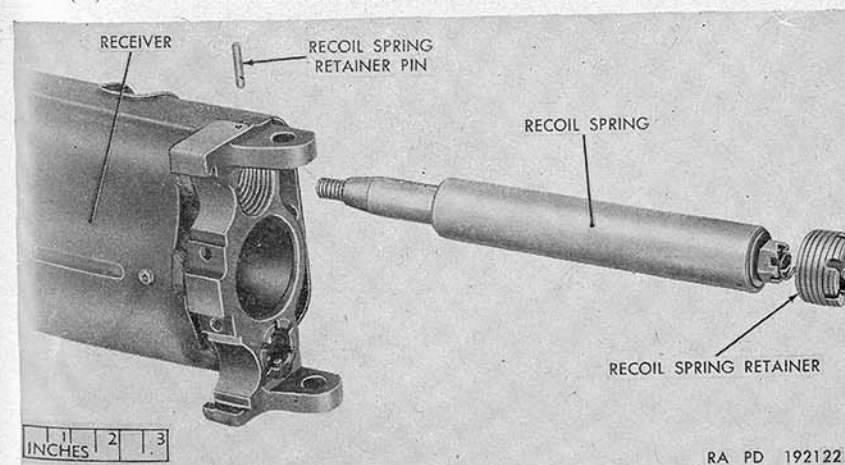

Figure 82. Recoil spring group removed from receiver.
- (1) Install recoil springs into holes on each side of tube bearing (fig. 82).
- (2) Screw recoil spring retainers over recoil springs. Tighten hand-tight only, to prevent destroying preload setting of recoil springs (fig. 82).